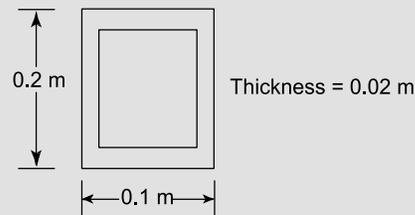

Figure 9.5
**Problem 2.** A beam of length 3 m is simply supported at its ends and has a cross-section, as shown in Figure 9.5. If the beam is subjected to a uniformly distributed load of 2 tonnes/m, determine the maximum stress due to bending and the corresponding value of the radius of curvature of the neutral layer.